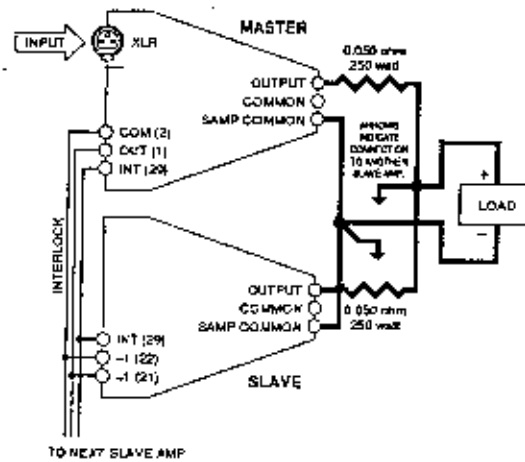

Fig. 3.21 Interlock Parallel System Wiring
Two or more amplifiers can be interlocked in a Parallel configuration to greatly increase the output current for driving large loads with extremely low impedance. Figure 3.21 shows the basic system connections:
4. Make an interlock cable as shown in Figure 3.21 and connect it to the 37-pin System Interlock connector of each amplifier.
7. Connect the load across the positive and common output cables as shown in Figure 3.21. The load should be connected in such a way that the cable lengths feeding it from the output of each amplifier vary no more than 1/4 inch from each other.